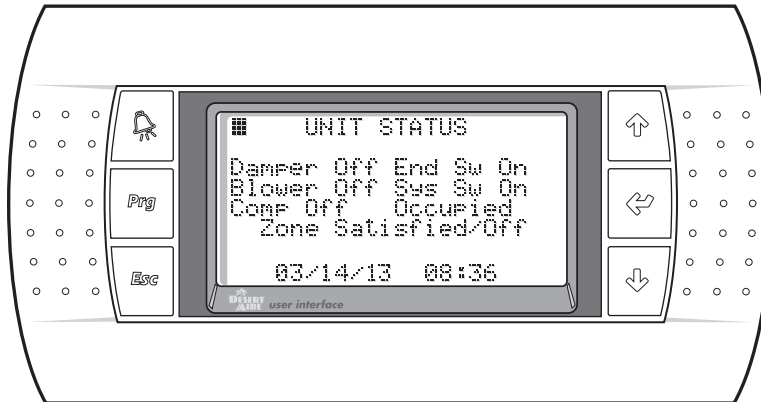

Figure 7
2.3.1. Modes & Time (Figure 7)